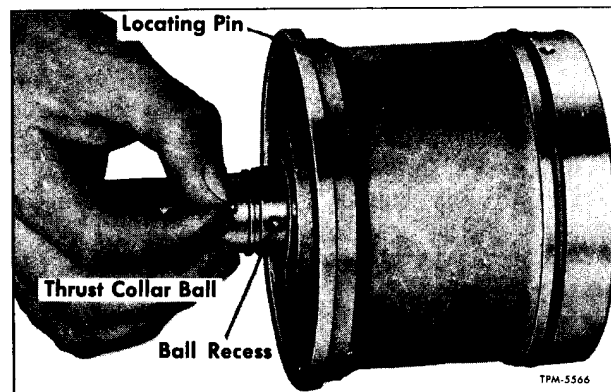

Figure 50—Thrust Collar Ball Location
2. Place crankshaft and head assembly on clean work bench. Remove rubber O-ring seal (33) from groove in bearing head (5).
3. Using Tru-Arc pliers, remove snap ring (37) which retains thrust collar (39) on shaft. Remove thrust collar and the small ball (38) from depression on crankshaft (fig. 50).
4. Slide bearing head (5) from crankshaft.
5. If necessary, thrust washer (40) and oil restriction plug (43) can be removed from bearing head.
1. If thrust washer (40) and oil restriction plug (43) was removed from bearing head, install these parts. Install washer with oil grooves away from bearing head.
2. Insert crankshaft (12) into bearing head, then position small ball (38) into depression on crankshaft as shown in figure 50. Install thrust collar (39) on crankshaft with groove in collar aligning over ball on crankshaft.
3. Install thrust collar retaining ring (37) against thrust collar. Be sure that retaining ring is firmly seated in crankshaft groove.
4. Install rubber O-ring seal (33) into groove at rear of bearing head (5).
5. With compressor oil applied to O-ring seal, insert crankshaft and bearing head assembly into compressor housing making sure locating pin (35) on bearing head (fig. 50) engages groove in compressor housing.